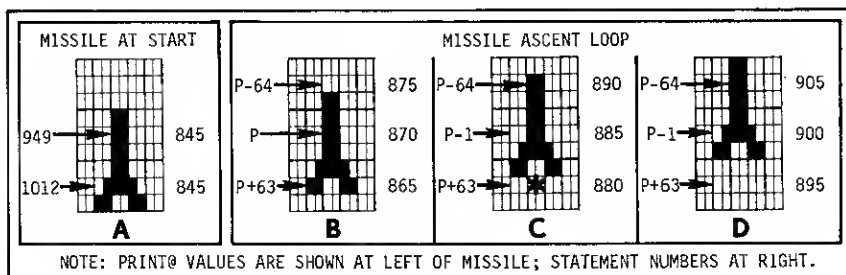

Fig. 4. Program 9 Graphic Shapes
Demo program 9 shows how stacked graphic patterns can be moved vertically. For lack of space, the display has only two remarks and doesn't show the graphic shapes used in the missile ascent loop. Missile-start-loop and ascent-loop shapes are shown in Fig. 4.
PRINT@1012 and PRINT@949 segments of statement 845 (Listing 1) print a two-line-tall missile (Fig. 4, A) on the display screen's bottom edge. Pressing the space bar starts demo-program execution at statement 855. This statement specifies start-to-stop values and a step decrement (-64).
Three three-statement groups (Fig. 4,
B, C, and D) make up an ascent loop that raises the missile. Group A's three statements print the missile's bottom, center, and top sections. Each successive group offsets the missile shape upward one pixel ($\frac{1}{3}$ of a character line). CHR\$(42) in statement 880 simulates a pulsating rocket engine by flashing an asterisk between the missile's tail fins (Fig. 4, C).
STRING\$(3,128) in statement 895 prints three blanks that erase below the rising missile (Fig. 4, D). Fourteen loops through graphic-printing statements 865-905 raise the missile to the display screen's top edge.